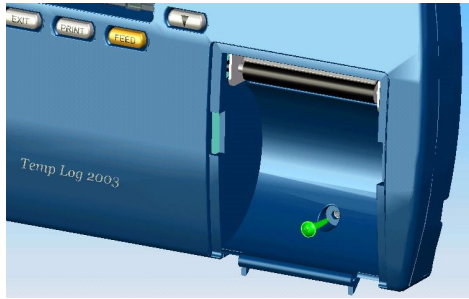

Figure 5: Securing the Unit to the Bracket
4. Fasten one screw through the hole under the paper roll to secure the VLT to the bracket, as shown in Figure 5.